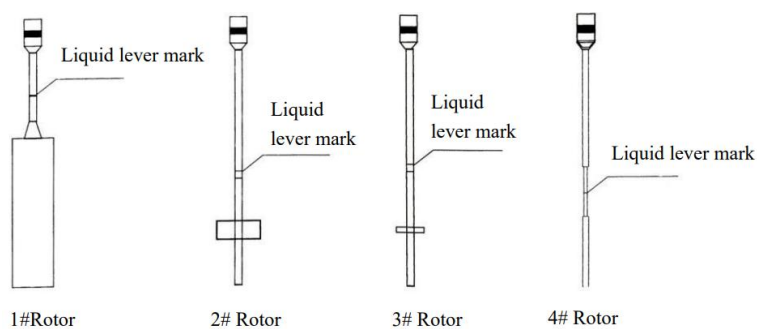

Figure 5
- Rotor kit 1–4 (see Figure 5)